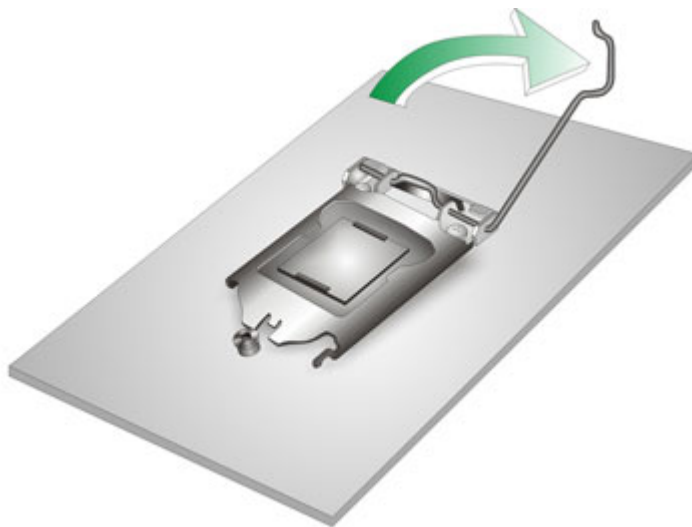

Figure 4-1: Disengage the CPU Socket Load Lever
Step 1: **Disengage the load lever** by pressing the lever down and slightly outward to clear the retention tab. Fully open the lever. See **Figure 4-1**.